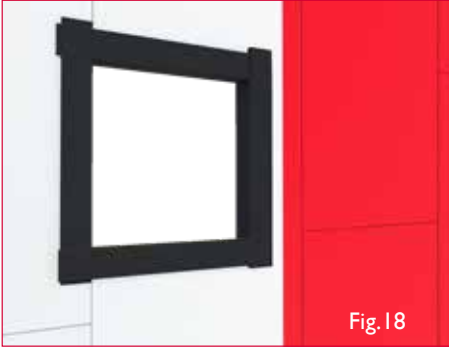

Fig. 18
1. Apply EPDM around perimeter and into window and door openings following the manufacturer's recommendations before Wraptite Membrane reaches the opening's threshold (Fig. 18).